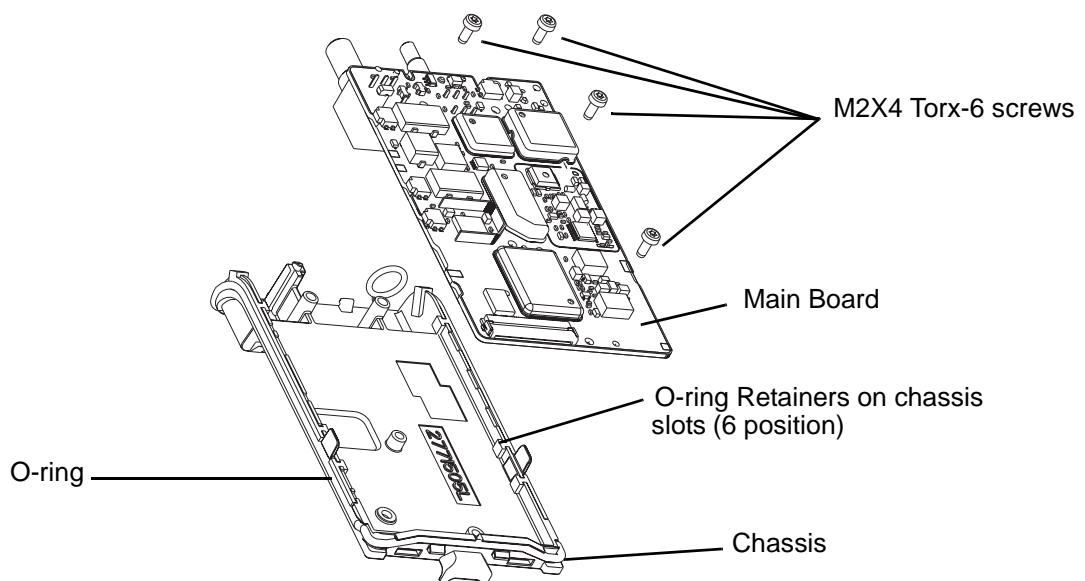

Figure 3-13 Remove Main Board from Chassis
1. Lift the main board from the chassis (See Figure 3-13).